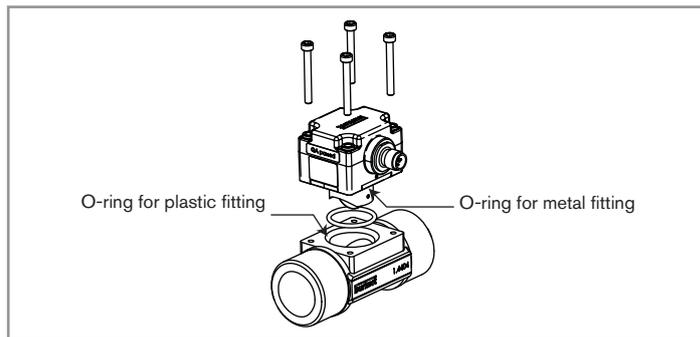

Fig. 26: Exploded view of the 8012
- Insert the new seal (see Fig. 26).